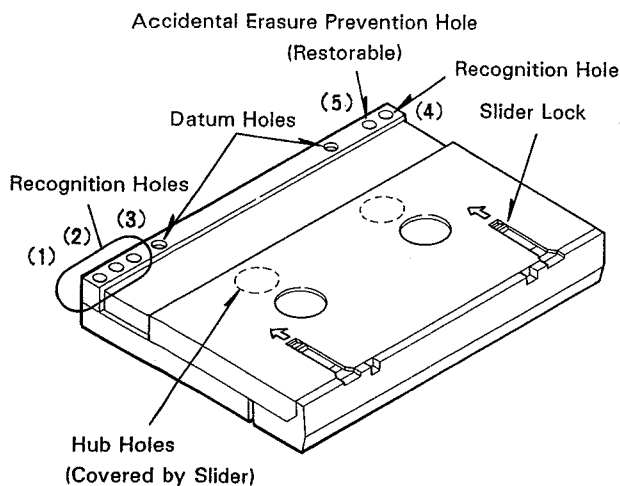
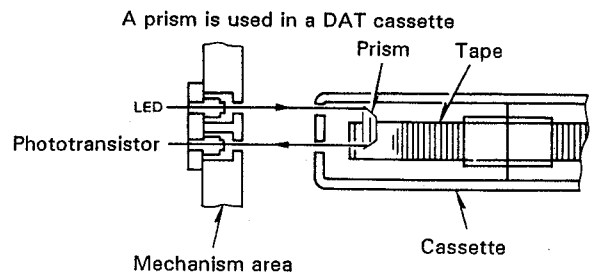

Fig. 1-10-1 Outside View of DAT Cassette
Fig. 1-10-3 Tape Beginning and End Detection Method for Digital Audio Tape
The appearance of the cassette is shown in Fig. 1-10-1. The cassette dimensions are 73 mm (L), 54 mm (W), and 10.5 mm (H), which makes it considerably smaller than conventional compact cassettes.
The DAT cassette has a lid to protect the tape. The lid and slider are shown in Fig. 1-10-1. The lid and slider are ordinarily closed to prevent dust and fingerprints on the surface of the tape. Additionally, the cassette is engineered so that the brake does not make contact with the reel and slackness in winding does not occur when the lid and slider are closed. The quality of the metal tape is higher than the metal tape of audio cassettes and magnetic materials are employed to allow high density recording.
A prism is integrated into the DAT tape cassette. As shown in Fig. 1-10-3, light from an external LED strikes the prism integrated into the cassette. In the transparent portion of the leader tape, the reflected light from the prism is radiated onto a phototransistor and the beginning or end of the tape can be detected. Tape end detection is performed to prevent the tape from breaking when winding at high speed, and the brake is immediately applied when the tape end is detected. Additionally, chrome tape, barium ferrite, and other materials with excellent properties are being investigated even though their coercive force is limited in prerecorded tapes due to contact printing. There are five types of recognition holes in a DAT cassette as shown in Fig. 1-10-1. Recognition holes to prevent recording work the same way as those of conventional cassettes. However, the DAT cassette also has other types of exclusive recognition holes (see Fig. 1-10-4). Recognition hole (5) indicates whether or not recording is possible.